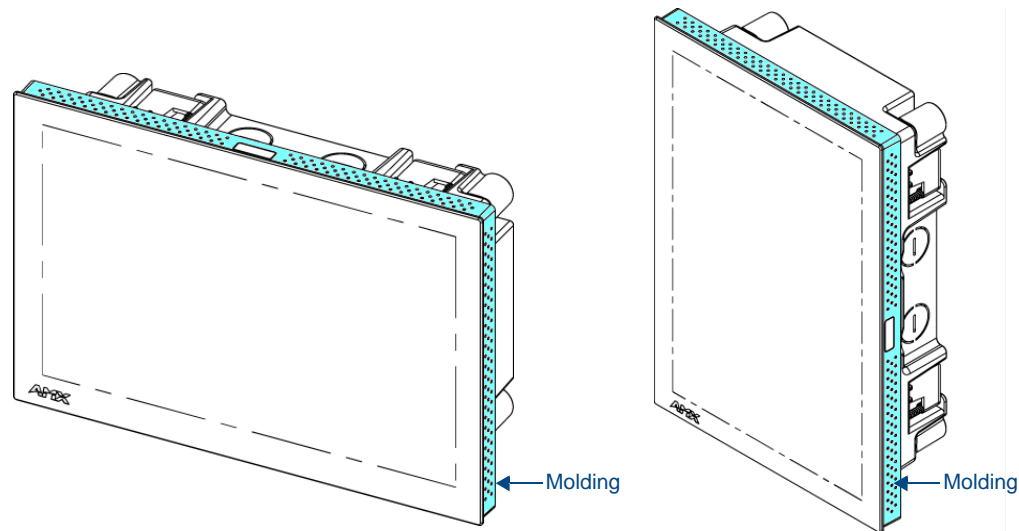

FIG. 48 MXD-1000 Molding (highlighted in blue)
1. The MXD-1000 has three rows of ventilation holes along the molding (FIG. 48):
1. The MXD-700 has three rows of ventilation holes along the molding (FIG. 48):
1. The MXD-430 has three rows of ventilation holes along the molding (FIG. 48):